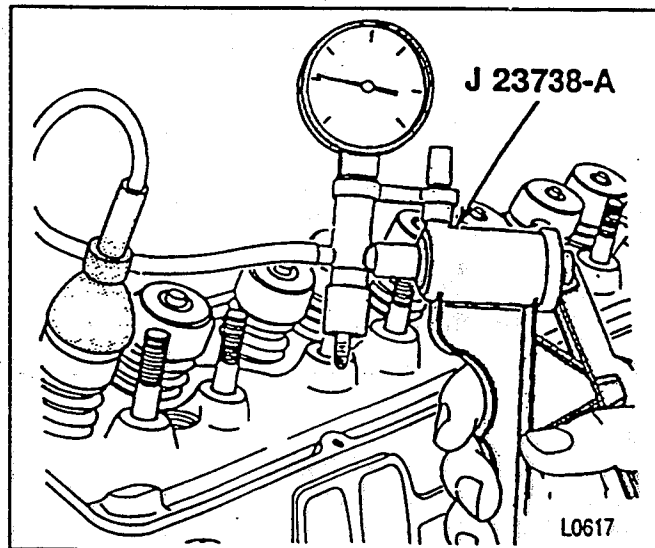

Figure 61—Checking the Valve Seal (5.0L and 5.7L Engines)
- E. Check each seal, using J 23738-A (figure 61). Place the adapter cup over the shield. Operate the vacuum pump. Observe the vacuum pump gage. No air should be able to leak past the seal. If the seal will not hold a vacuum, it may have been damaged or improperly installed.